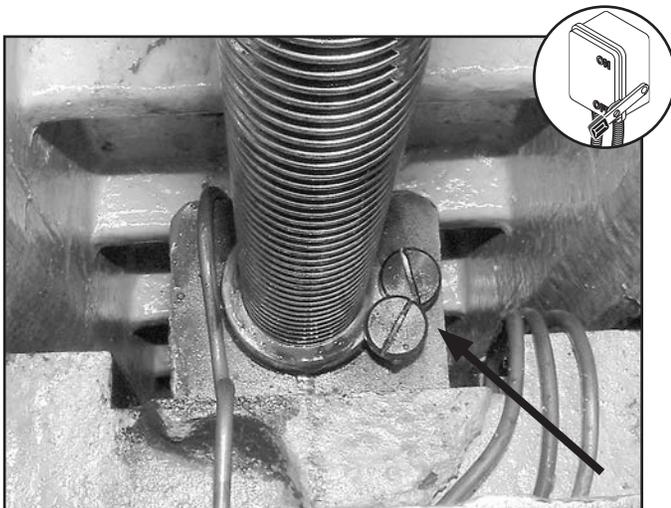

Figure 68. X-axis lead screw backlash adjusting screws.
2. Locate the lead screw backlash adjusting screws underneath the left side of the table, as shown in **Figure 68**.